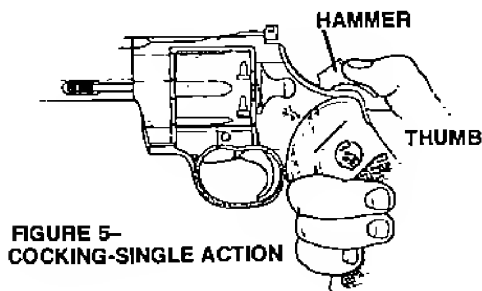

FIGURE 5—
3. (S) 1. *To fire single action*, grasp revolver by its grip, keep fingers away from trigger and draw hammer fully back (about an inch) to cocked position where it will be held to the rear (See Figure 5). Remove thumb from hammer spur.